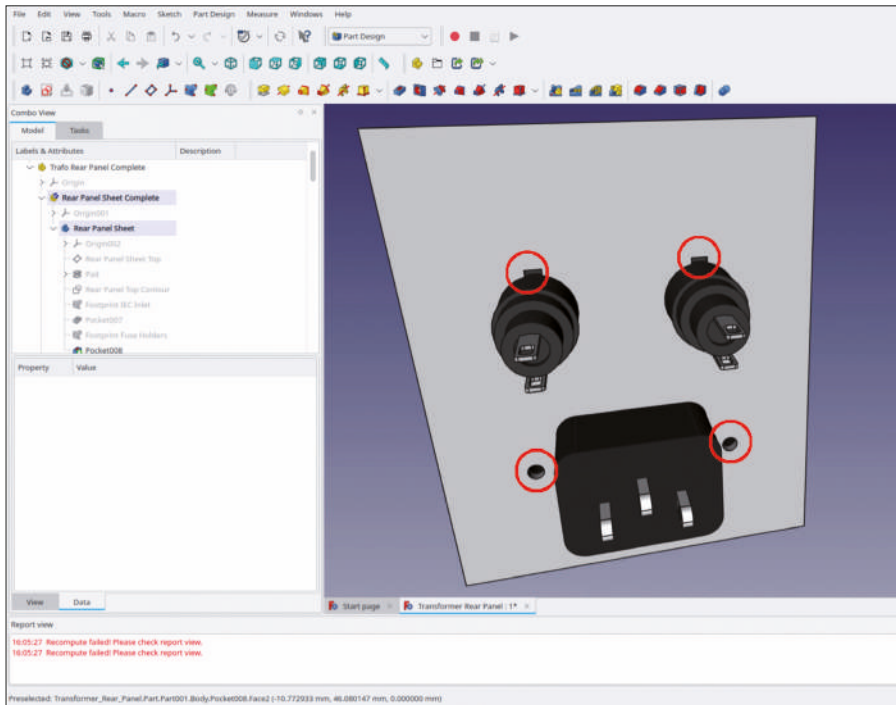

Figure 9-47
10. To check whether all the holes are properly inserted, display the 'Rear Panel Sheet' body again with the SPACE key (Figure 9-47). The rotation locks of the fuse holders and the bolt holes for the IEC inlet are visible. For the next steps, display all previously hidden items again.